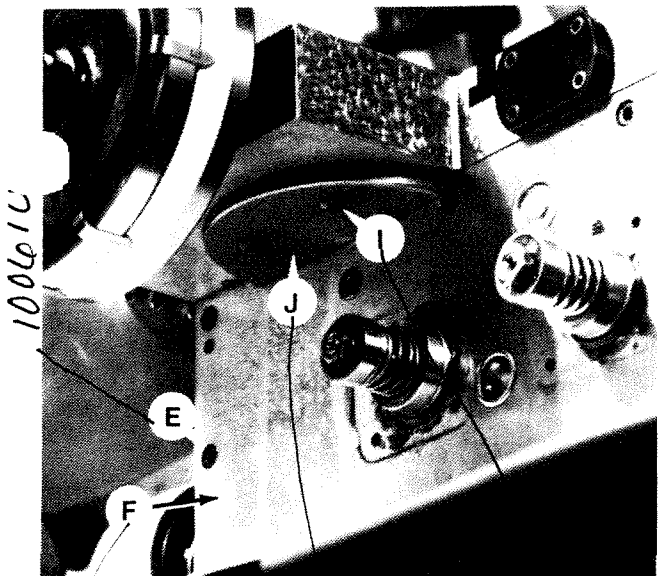

Figure 1.4 - Carriage Cover
Do not misplace the seal under cover "J", Figure 1.4 .
7. Remove two screws "I" and cover "J", Figure 1.4 .